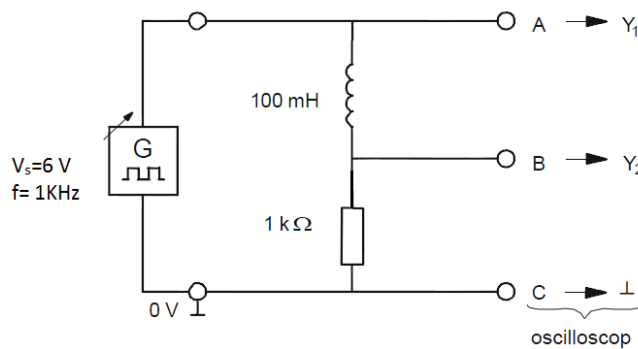

Figure 2
- 2.2 Using Fig. 2 Plot **Inductance current** signal at point B.